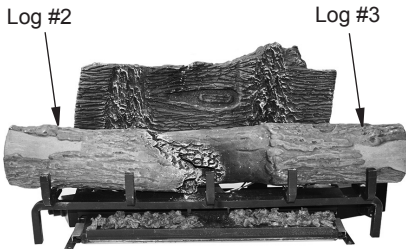

Figure 20 - Installing Logs #2 and #3
2. Place log #2 and log #3 onto front grate base (see Figure 20).